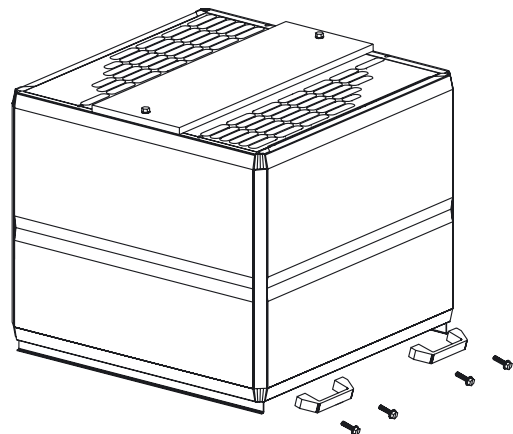

Fig. 6
2. To facilitate the opening of sizes 5, 6 and 7, the handles (included in delivery) can be used. The handles are mounted to the casing as shown in Figure 6.